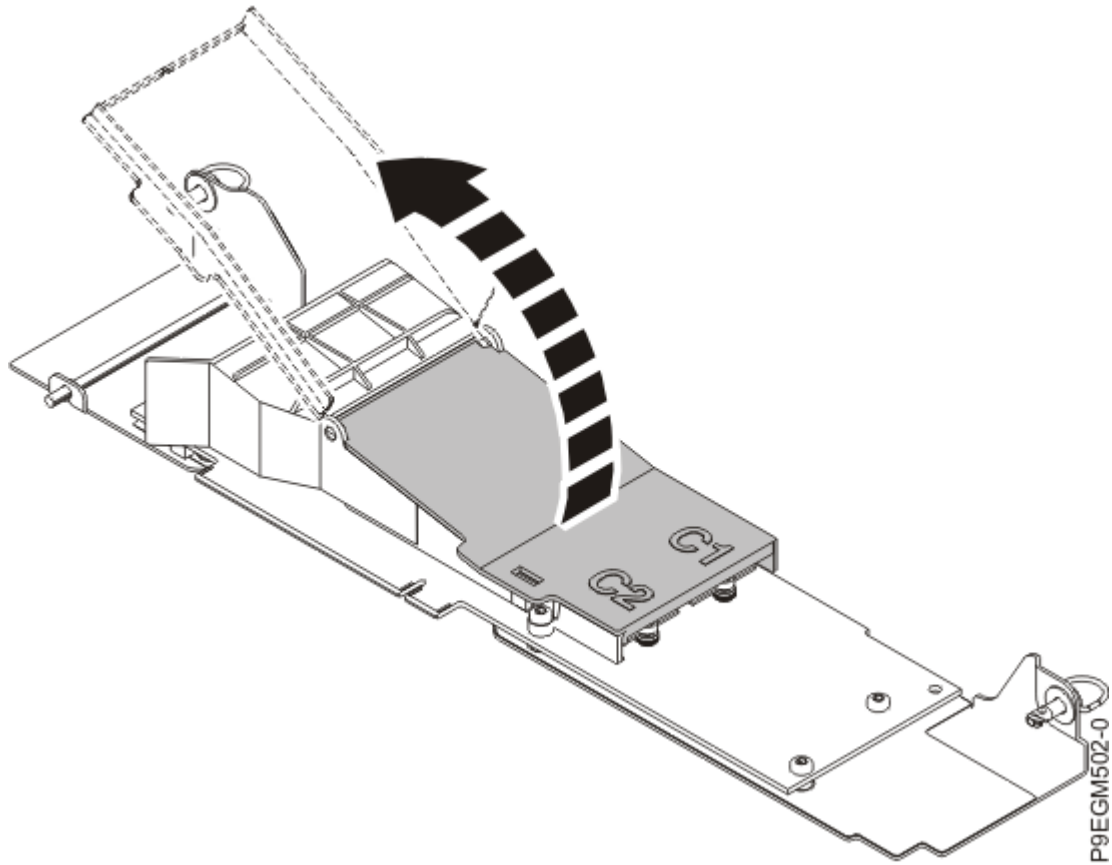

Figure 54. Lifting the NVMe M.2 carrier card cover
- a) Lift the black cover on the NVMe M.2 carrier card by pulling up near the pull tab as shown in Figure 54 on page 63.